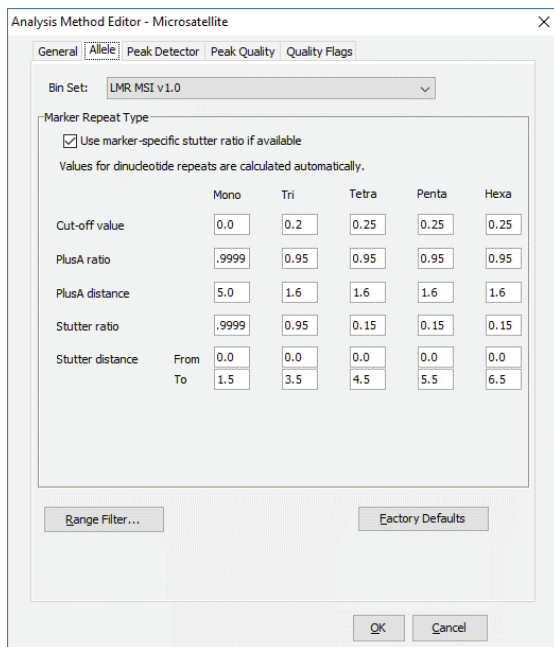

Figure 12. The GeneMapper® Software, version 5, 'Allele' tab.
5. Select the 'Allele' tab (Figure 12).
8. If you do not check the 'Use marker-specific stutter ratio and distance if available' box, you will need to optimize these settings. In-house validation should be performed. If in-house validation is not performed, ensure that the 'Use marker-specific stutter ratio and distance if available' box is checked. This will assign locus-specific stutter filters and distances from the imported stutter file. We recommend the settings shown in Figure 12 for proper filtering of stutter peaks when using the LMR MSI Analysis System.